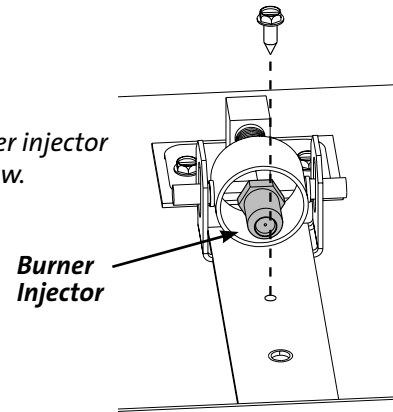

Figure 23. Burner injector and LP stop screw.
8. **Change the Burner Injector.** See fig. 23. Using a 1/2" open end wrench or deep-well socket remove the burner orifice from its brass elbow housing and replace with the appropriate orifice supplied in the kit. **CAUTION: Do NOT over tighten the Burner Injector. Over tightening can damage the brass elbow and cause a gas leak!**
- A) **Install the stop screw into the air shutter plate.** See fig. 23.
16. **Adjust the Air Shutter.** You will need to position the shutter to provide a gas/air mixture that will achieve the best flame picture with your particular installation. Start with the shutter stem at the half-way position in the slot in the bottom of the stove. See fig. 23. Pushing the stem back will restrict air, while pushing it forward will open the shutter and increase air. With some experimentation, you will find the shutter position that works best for your installation.